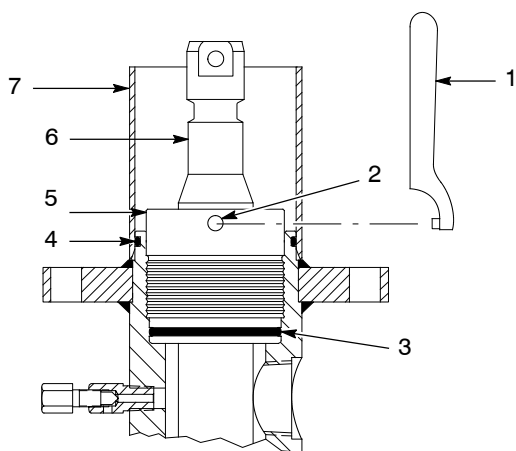

Figure 5 Replacing the Packing Gland
3. Bleed the hydraulic pressure through the bleed valve (13) and guns. Leave the valve open.
4. Remove the coupling (2) from the plunger. Drain the solvent chamber (6).
7. See Figure 5. Fit a pin spanner wrench (1) or the optional gland removal tool into one of the four holes (2) in the circumference of the packing gland. Unscrew the packing gland (5) counterclockwise out of the pump body.
1. See Figure 5. Coat the threads of the packing gland (5) with Never-Seez lubricant. Taking care not to pinch the O-ring (3) when inserting the packing gland, screw the packing gland into the pump body clockwise.
2. Install the coupling over the air motor shaft and plunger. You may have to pull the plunger up through the packing gland. If the plunger (6) has stalled in the bottom of the hydraulic section, retrieve it using the procedure in Table 2.
OFF	<ol style="list-style-type: none"> 8. Turn the air motor lockout valve off and remove the screwdriver and coupling. 9. See Figure 5. Install the solvent chamber (7) taking care not to pinch the O-ring (4).
OFF	<ol style="list-style-type: none"> 11. Turn the air motor lockout valve off and reinstall the coupling using appropriate threadlocking compound on the coupling screws. Tighten the screws evenly. 12. See Figure 5. Fill the solvent chamber (7) with appropriate solvent to approximately 4 cm (1.5 in.) from the top and close the pump bleed valve.
6. Using either an arbor press or a hydraulic press, push the plunger (1), piston (15) and upper check rod assembly out of the pump body.
7. Secure the flats (14) of the upper check rod in a vise. Use a wrench to grip the flats on the plunger and unscrew it from the upper check rod.
8. Remove the piston and spacer (16).
10. See Figure 5. Fit a pin spanner wrench (1) or the optional gland removal tool into one of the four holes (2) in the circumference of the packing gland. Unscrew the packing gland (5) counterclockwise out of the pump body.